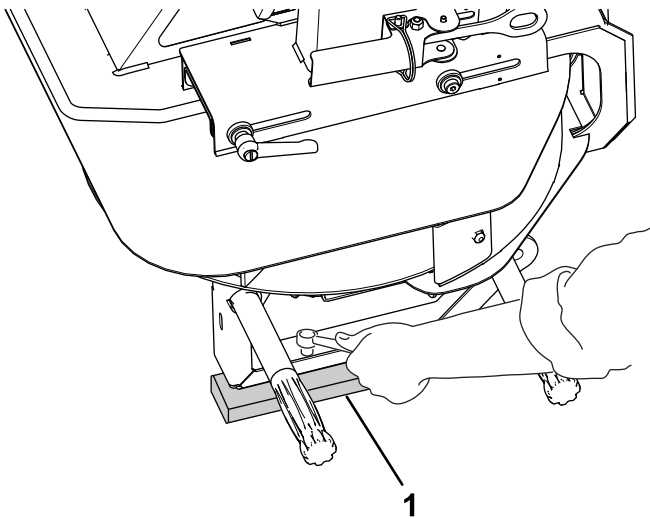

Figure 1
2. Remove the 4 screws from the legs of the twin spinner. With the help of a partner, lift the twin spinner and remove the packing studs and packing foam (Figure 1).